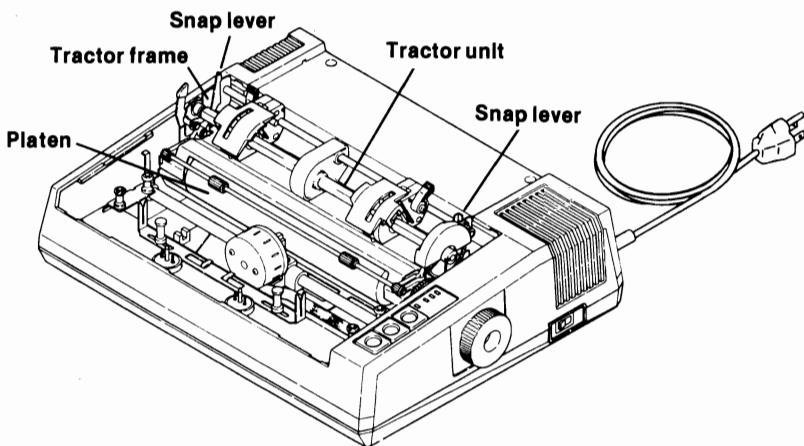
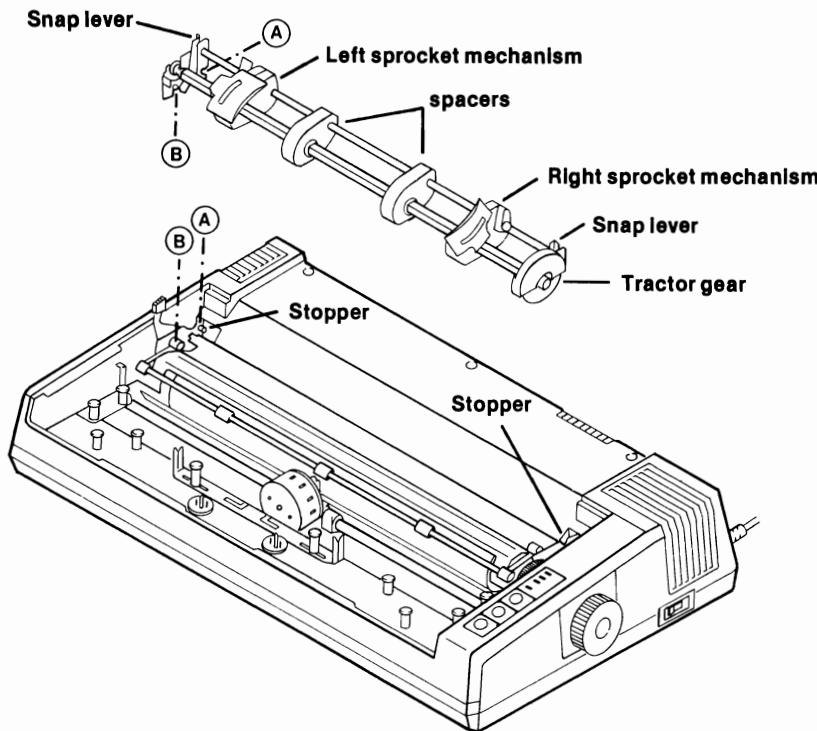

Figure 2-1. The Gemini tractor unit is easy to remove for using single sheets or roll paper.
Figure 2-7. Mounting the tractor unit is a “glide and snap.” Glide the unit down until the A’s align, then snap the unit down so the B’s lock into place.
2. Identify the two "snap levers" by comparing your printer with the Gemini-10X shown in Figure 2-1.
Figures 2-1 and 2-2 showed you how to remove the tractor unit from your Gemini. The tractor unit drives ("feeds") the sprocket paper through the printer. When you want to print onto this type of paper, you must first attach the tractor unit. Figure 2-7 shows you the correct alignment for gliding the unit into position and snapping it into place.
Facing your Gemini, as depicted in Figure 2-7, you see the tractor’s driving gear-wheel that is on the right (protected by a “fender,” complete with a “fender skirt”). To the left of this part is the right sprocket. On the other side of the spacer(s) is the left sprocket unit. These mechanisms drive the paper through the printer. Each has a hood, secured with a spring. Try lifting the hood, if you want.
2. Install the tractor unit, as illustrated in Figure 2-7 (on page 23).